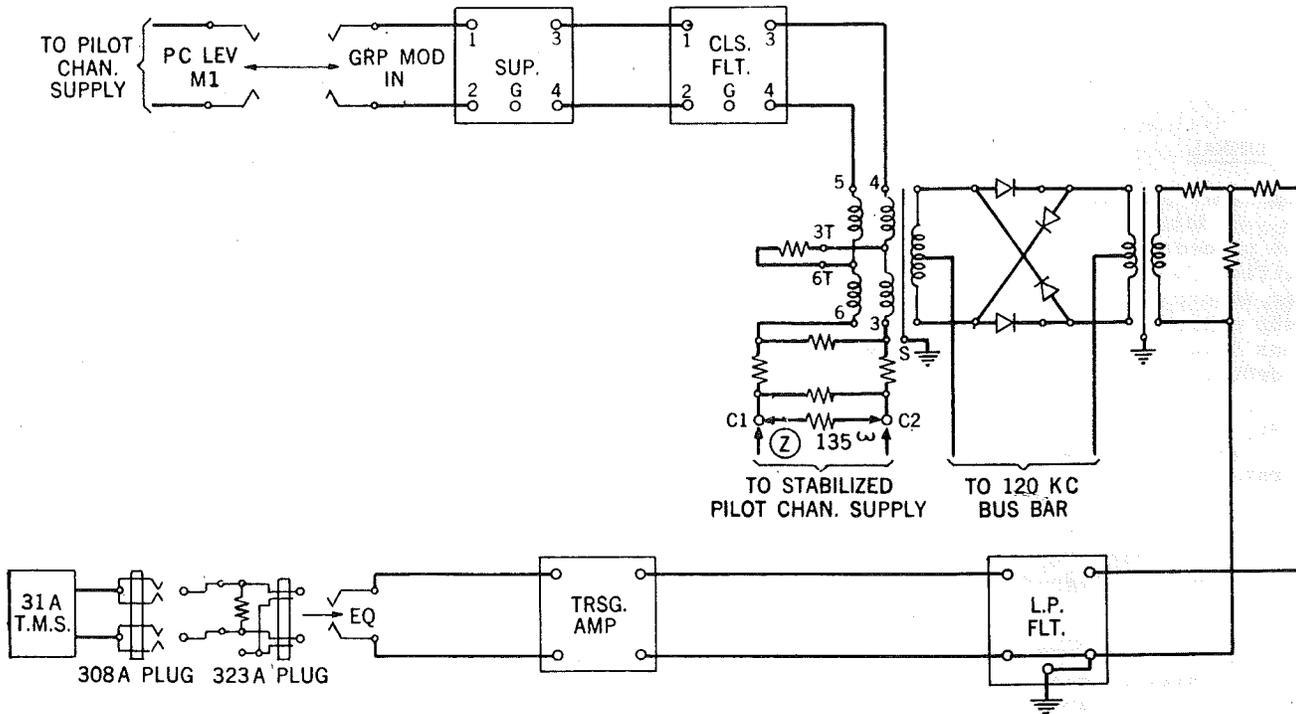

Fig. 12 - Carrier Leak Suppression Filter Loss
3.52 Procedure - 12 and 28 kc Pilots - See Fig. 12:
(4) Disconnect the leads from Terminals C1 and C2 on the group modulator panel and replace with a 135 ohm, 106A resistance (Z wiring Fig. 12).
(5) Tune the 31A or 42A T.M.S. and measure the output at 12 and 28 kc.